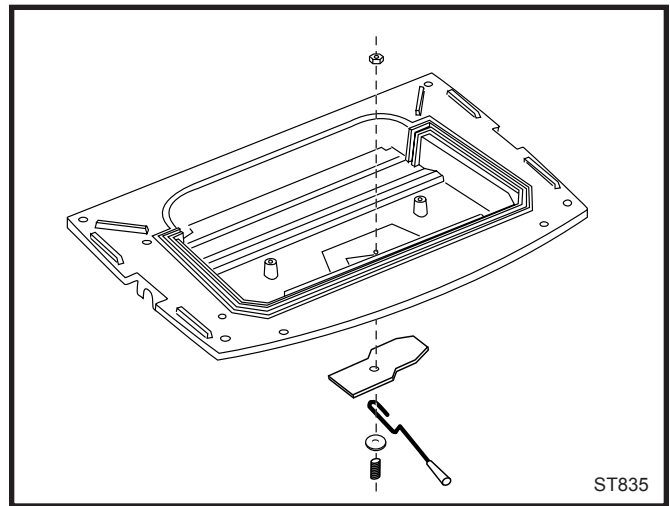

Fig. 2 Primary air valve assembly.
4. Assemble the primary air valve, place the "U" portion of the air valve shaft between and around the upsets on the air valve casting with the upset on the valve shaft towards the underside of the ashlip. Place the compression spring on the 1/4-20 x 1 1/4" hex head cap screw, next place the 1/4" x 1" outside diameter washer on the cap screw. Insert the cap screw with spring and washer through the air valve shaft and air valve, and thread it into the stove bottom until the spring is almost fully compressed. Thread a 1/4-20 hex nut onto the air valve cap screw from inside the stove bottom and tighten the screw against the stove bottom. The air valve is properly adjusted when you feel resistance to movement of the air valve shaft but the shaft moves from stop to stop easily. (Fig. 2)